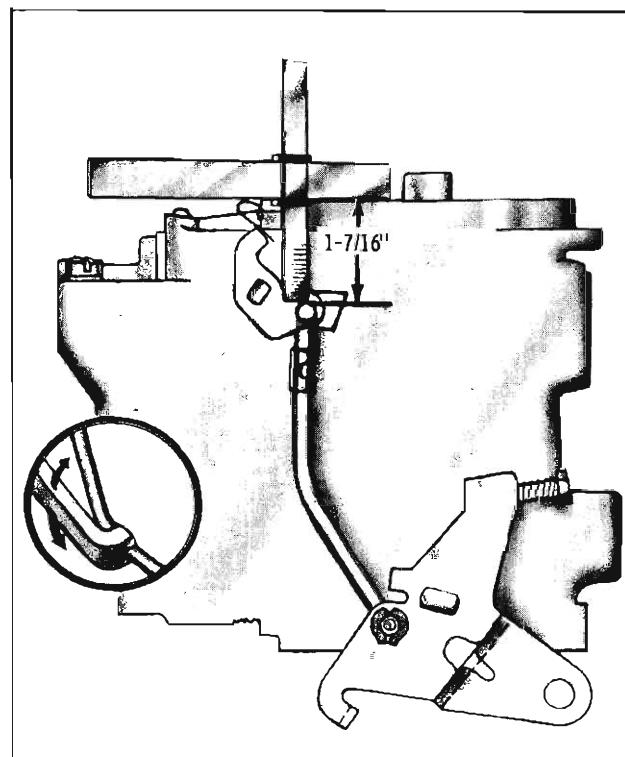

Fig. 4-50 Pump Rod Adjustment
1. Using Gauge Set 100-31 check the distance from the top of the air cleaner mounting ring to the top of the pump rod. The leg of the gauge marked "Pump" should just touch the top of the pump rod. (Fig. 4-50)